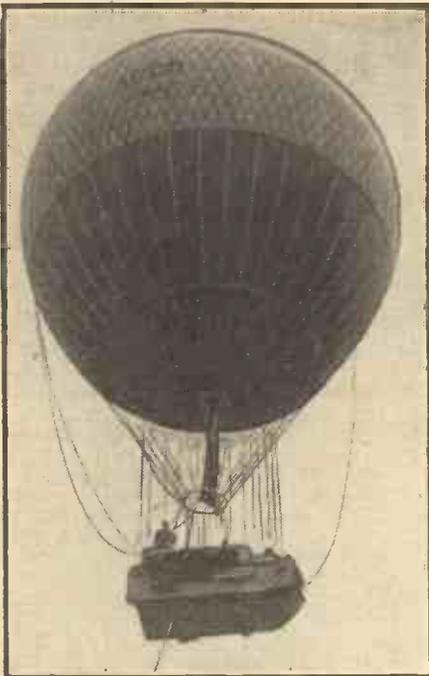

Fig. 1.—The balloon in its moorings.
**A**N attempt to "cross the Atlantic in a 46-foot diameter balloon called "The Small World" was started recently. Fig. 1 shows the balloon in its moorings. It was launched from Teneriffe in the Canary Islands and the specially-designed car carries a crew of four. The wind provides the only means of propulsion.